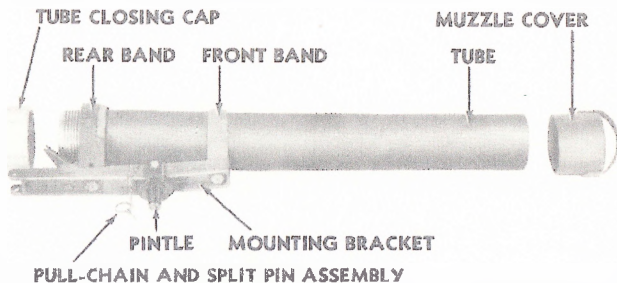

Fig. 18. Tube assembly.
a. The tube is made from the tube of the standard M2 improved 4.2-inch chemical mortar barrel (TM 3-320), modified by shortening to 40 inches and adding special threading. It has an inside diameter of 4.2 inches between lands. The tube includes a complete mounting assembly consisting of a front and rear support band, mounting bracket, cal. .30 machine gun mount pintle, and a locking mechanism which is assembled to the rear support band between mounting bracket and tube body. Figures 18 and 19 show the complete tube and its component parts. The tube cap serves as a thread protector and prevents water from entering tube when mortar is disassembled. The muzzle cover is the standard leather cover used on the standard 4.2-inch chemical mortar.